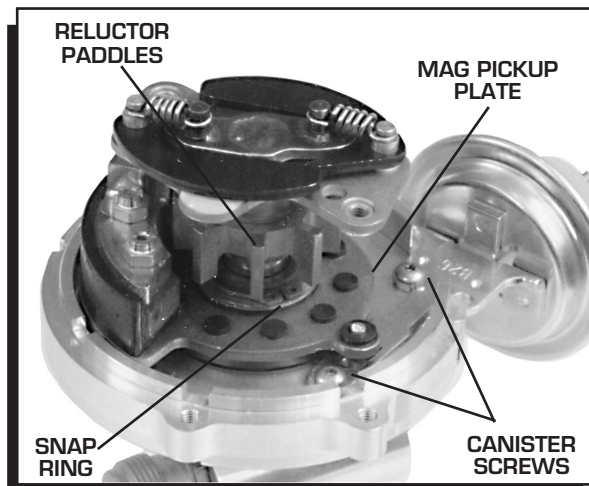

Figure 12 Removing the Vacuum Canister.
1. Remove the two Allen head screws that hold the advance canister (Figure 12).